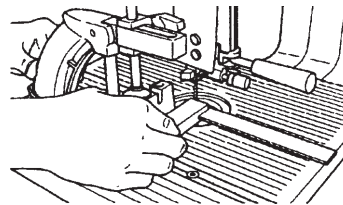
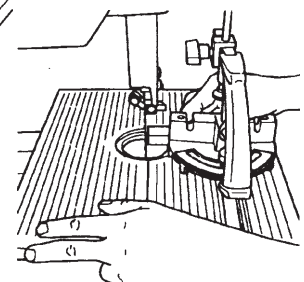

Figure A-18
Figure A-19
2. Keep the square on the miter gauge, and slide the miter gauge and square forward until the base of the square reaches the Bandsaw blade, as in Fig. A-18. If there is a gap between the square and the Bandsaw blade or if the blade gets in the path of the square, adjust the table (as the left hand is doing in Fig. A-19) until the gap is elimi-